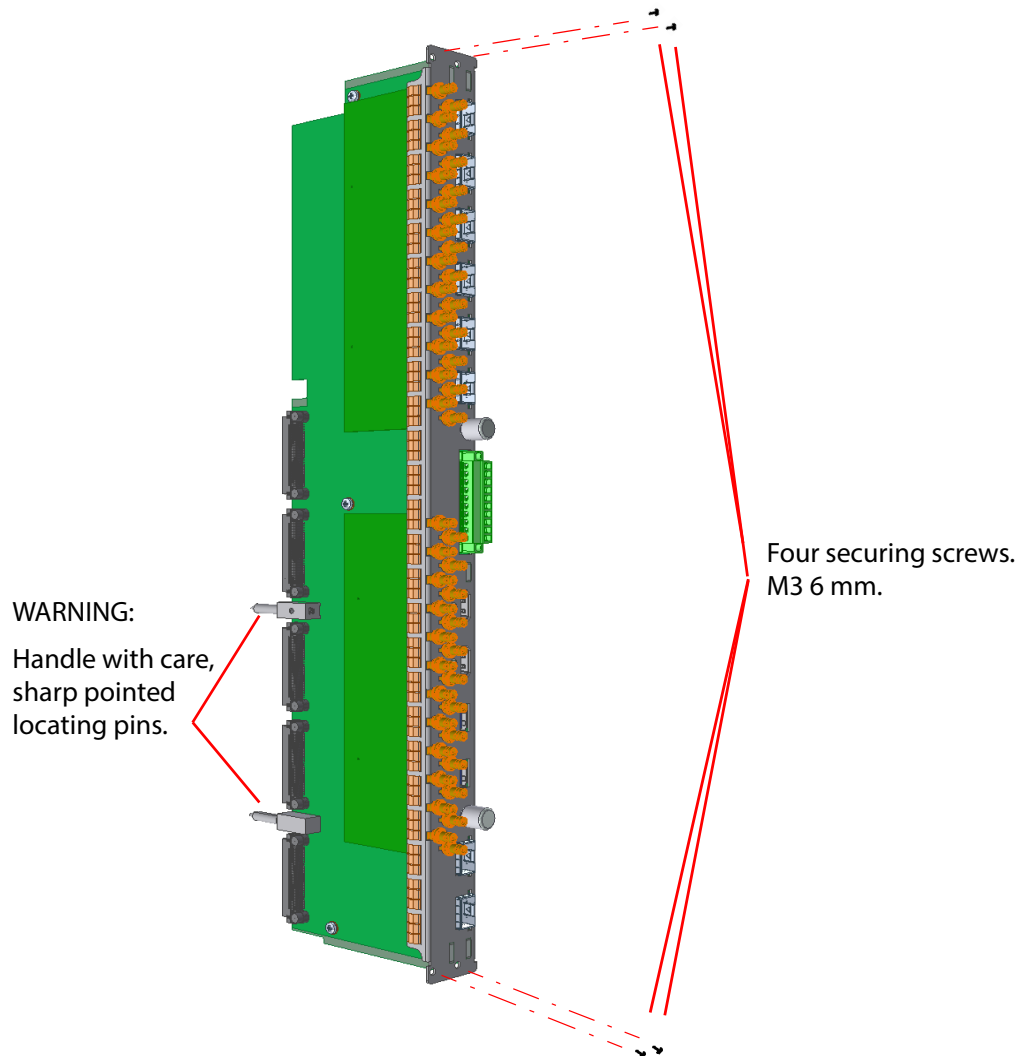

Fig. 3-8: MV-830-RP Rear Panel module
Check the orientation of the rear module, see Figure 3-8.
- 4 Fasten the MV-831 rear panel module in position with four securing screws, see Figure 3-8. Do not over-tighten the screws.